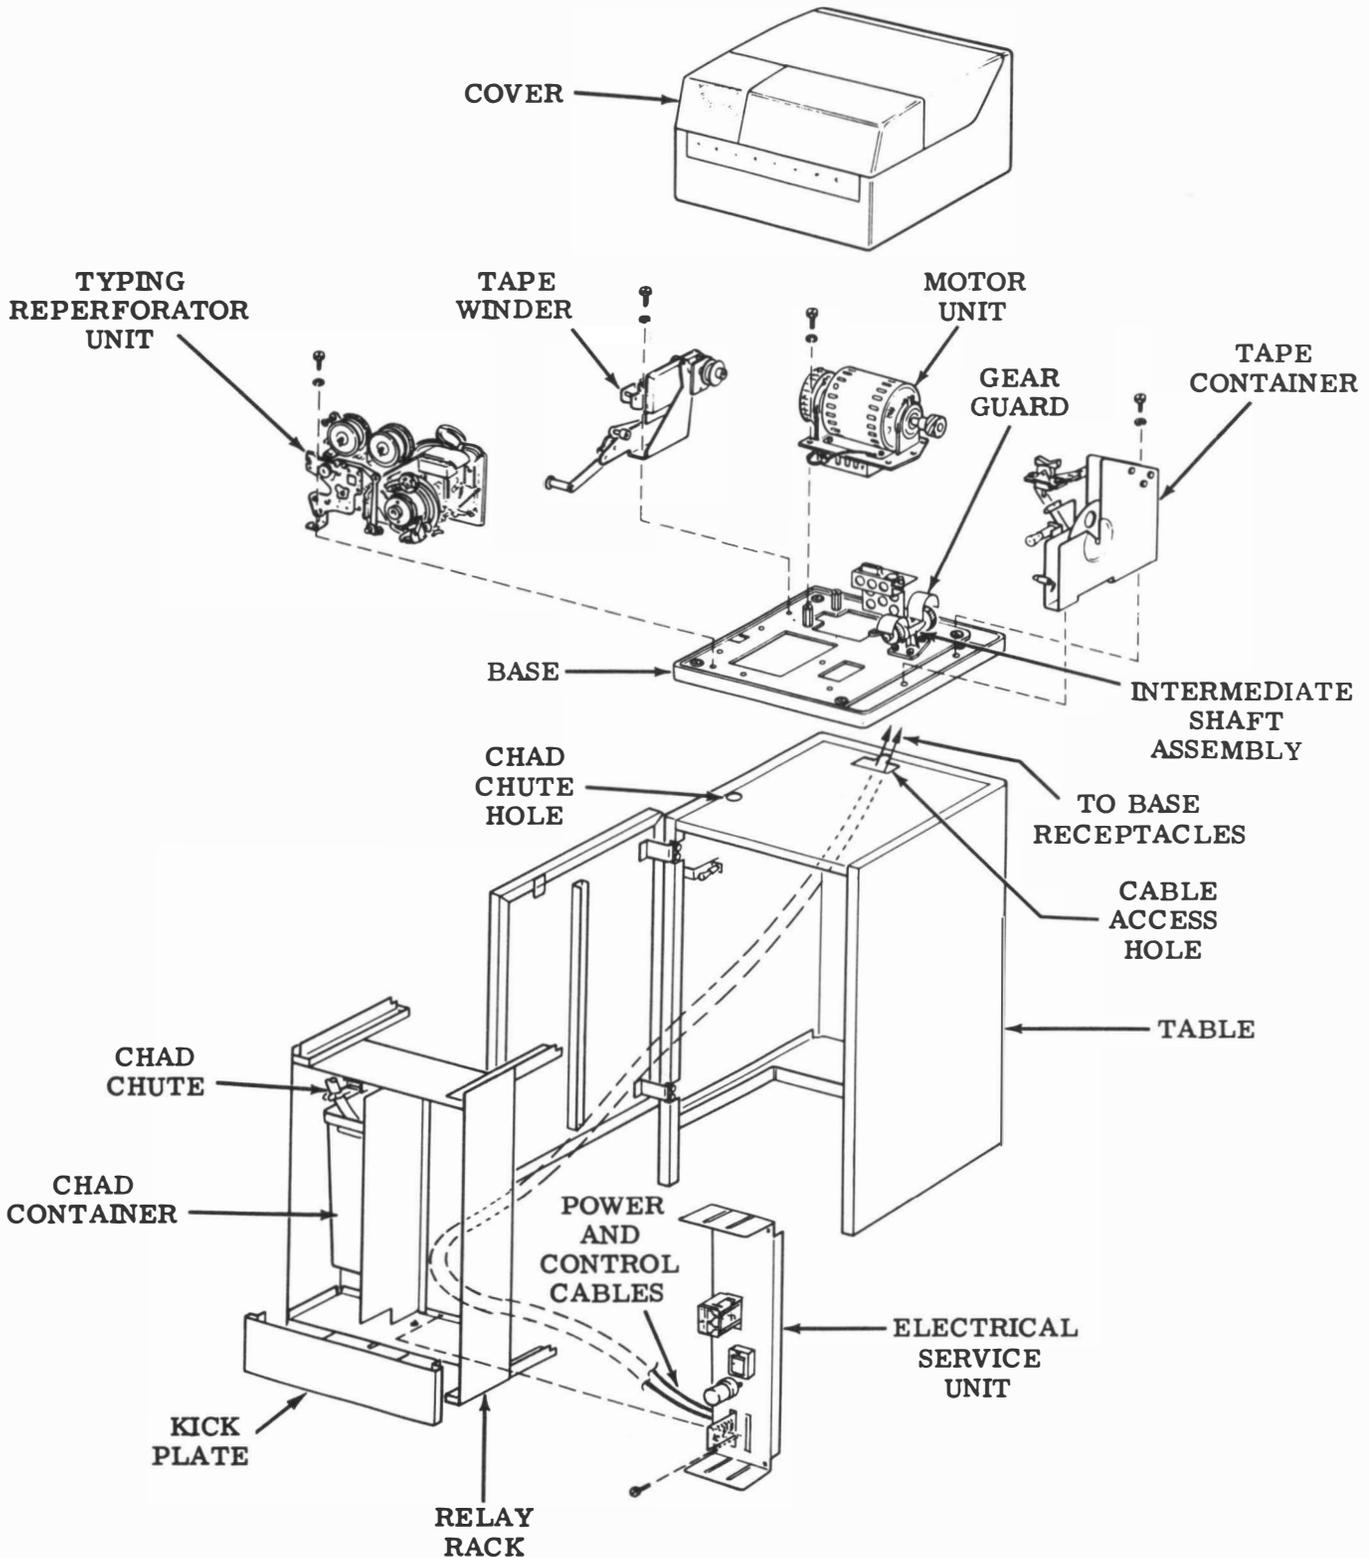

Figure 2 - 35 ROTR Set, Exploded View of Components
3.03 Remove the screws and lockwashers which hold the gear guard to the intermediate shaft casting on the base and set them aside with the gear guard (Figure 2).
3.12 Place the typing reperforator unit over its mounting holes in the base (Figures 2 and 3).
3.23 Install the gear guard on the intermediate shaft assembly (Figure 2).
3.24 Mount the tape container onto the right side of the base with two screws, lockwashers and flat washers (Figure 2).
3.25 Mount the tape winder to the left rear corner of the base with two screws and lockwashers (Figure 2).
3.32 Position the relay rack under the table. Push the plastic chad chute up through the hole in the table top and into engagement with the chad chute on the typing reperforator unit (Figure 2).